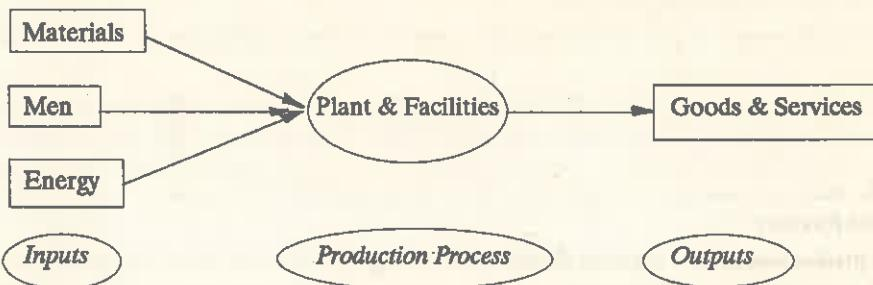

Fig. 2.3. Input-Output model.
- It is one of the basic models of the production system. A production system is the set of interconnected input-output elements and is made up of three component parts namely inputs, process and outputs (Fig. 2.3). A wide variety of inputs are transformed so that they give out a set of outputs. The transforming process can be complicated and the design of an actual input and output system for manufacturing may be expensive and difficult.